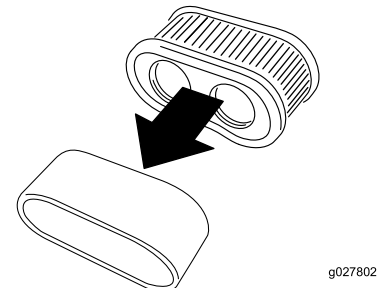

Figure 69
5. Separate the foam and paper elements (Figure 69).